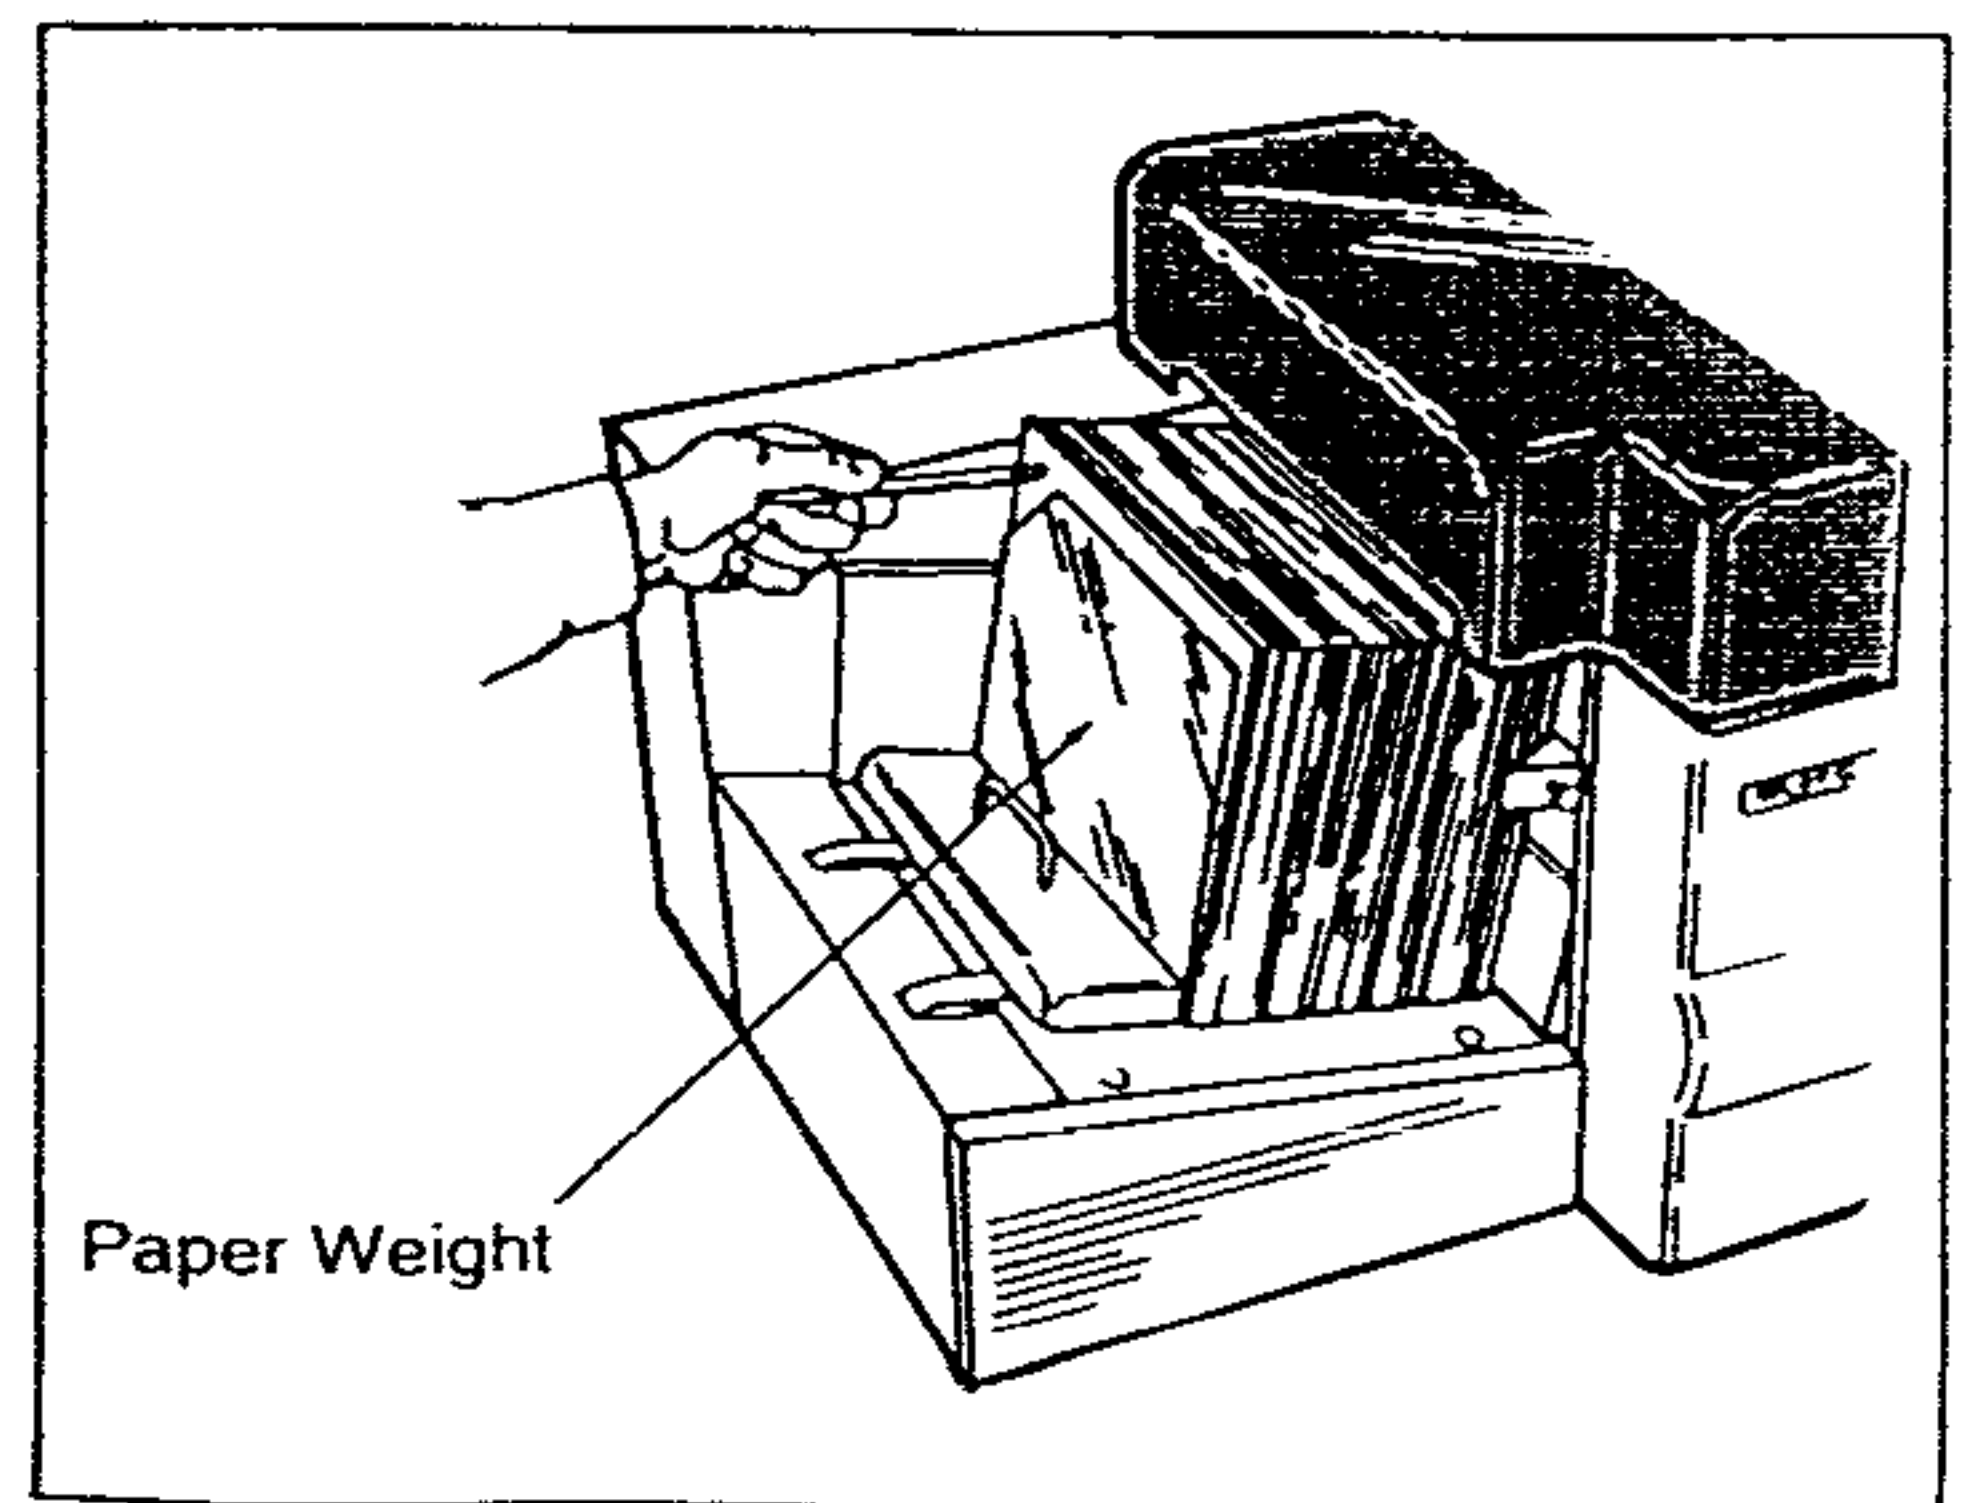

Figure 13
3. Another option to address severe paper curling away from the Rotating Feeder Disc is to push the upper left corner of the stack forward with the blunt end of a pen or pencil (See Figure 13). This will press the paper corner far enough forward for the Rotating Feeder Disc to separate groups.